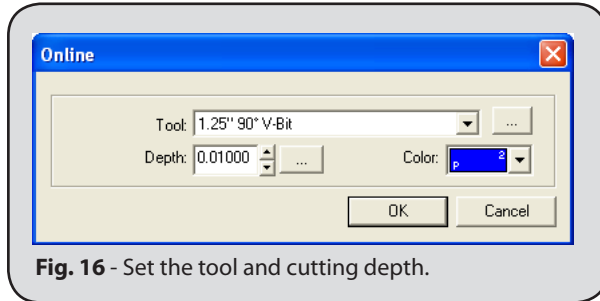

Fig. 16 - Set the tool and cutting depth.
3. The **Online** dialog will open (Fig. 16).